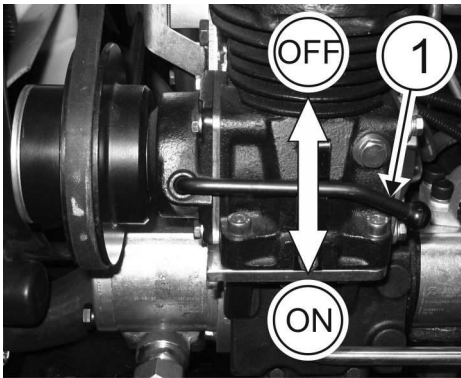

FIGURE 4.1 Pneumatic system compressor.
- switch on compressor drive (**Figure 4.1**) if tractor works with trailer;